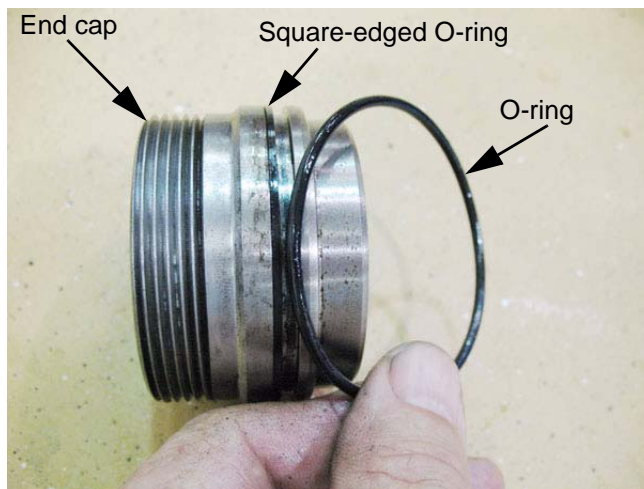

Figure 5.10
- 2.24. Carefully pry the O-ring seal out of the groove in the outside diameter of the end cap. See Figure 5.10.